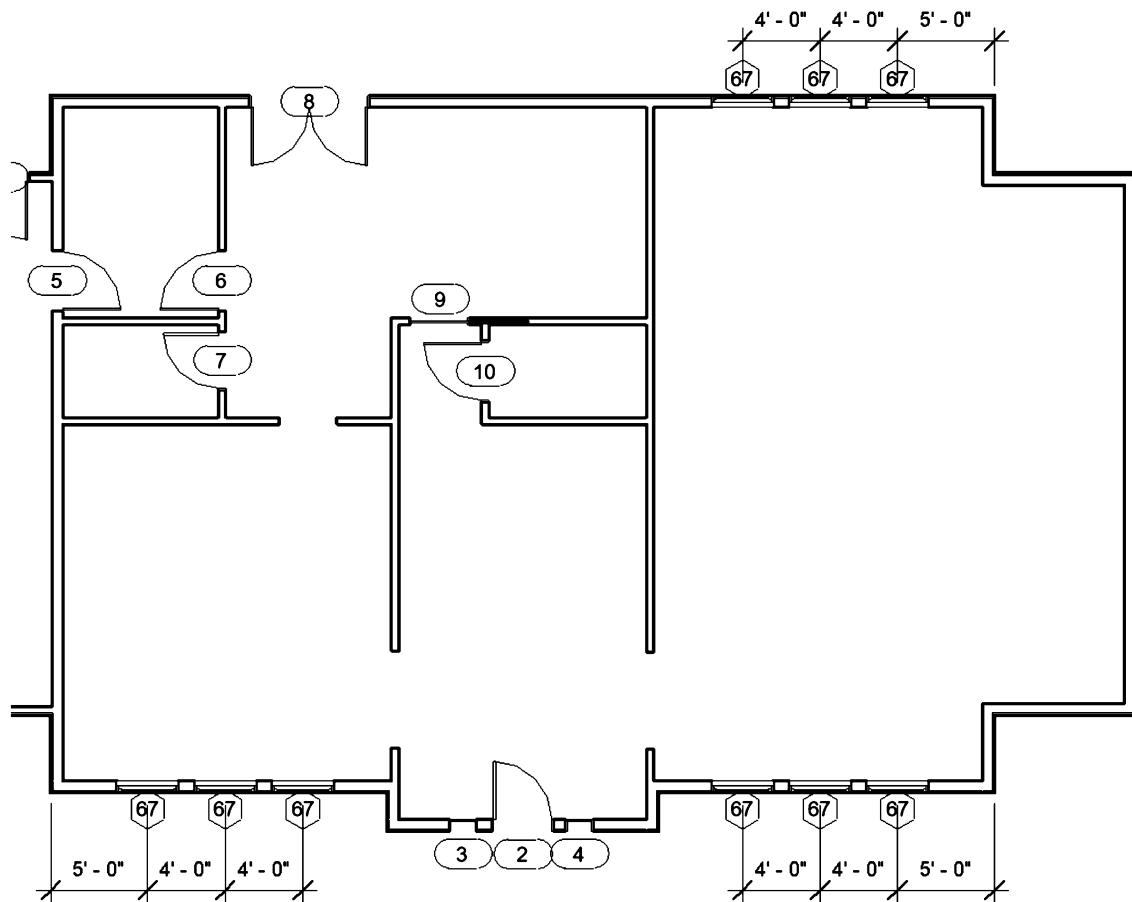

FIGURE 5-4.10 Nine windows added: Window-Double-Hung: 38" x 62"
15. Insert 9 windows as shown in **Figure 5-4.10**; be sure to adjust the window locations to match the dimensions shown, but do not add the dimensions. Be sure to click towards the exterior side of the wall, so the window has the proper orientation.